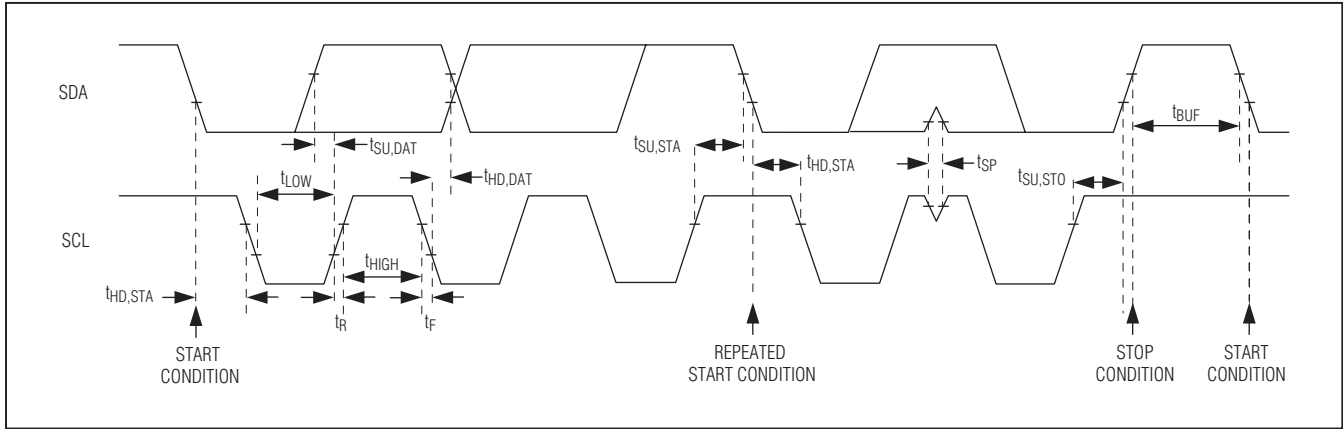

Figure 7. I²C Interface Timing Diagram
The IC features an I²C/SMBus™-compatible, 2-wire serial interface consisting of a serial-data line (SDA) and a serial-clock line (SCL). SDA and SCL facilitate communication between the devices and the master at clock rates up to 1MHz. Figure 7 shows the 2-wire interface timing diagram. The master generates SCL and initiates data transfer on the bus. A master device writes data to the devices by transmitting the proper slave address followed by the register address and then the data word. Each transmit sequence is framed by a START (S) or REPEATED START (Sr) condition and a STOP (P) condition. Each word transmitted to the MAX9679 is 8 bits long and is followed by an acknowledge clock pulse. A master reading data from the devices transmits the proper slave address followed by a series of nine SCL pulses. The devices transmit data on SDA in sync with the master-generated SCL pulses. The master acknowledges receipt of each byte of data. Each read sequence is framed by a START (S) or REPEATED START (Sr) condition, a not acknowledge, and a STOP (P) condition. SDA operates as both an input and an open-drain output. A pullup resistor, typically greater than 500Ω, is required on the SDA bus. SCL operates as only an input. A pullup resistor, typically greater than 500Ω, is required on SCL if there are multiple masters on the bus, or if the master in a single-master system has an open-drain SCL output. Series resistors in line with SDA and SCL are optional. Series resistors protect the digital inputs of the devices from high-voltage spikes on the bus lines, and minimize crosstalk and undershoot of the bus signals.